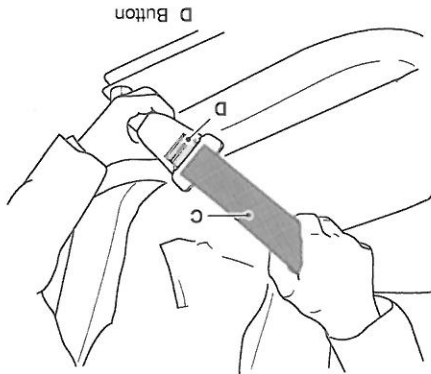

Figure 43.
4. To make sure the seat belt operates correctly, hold the middle of the seat belt and pull quickly. The seat belt should 'lock'. Refer to Figure 43.